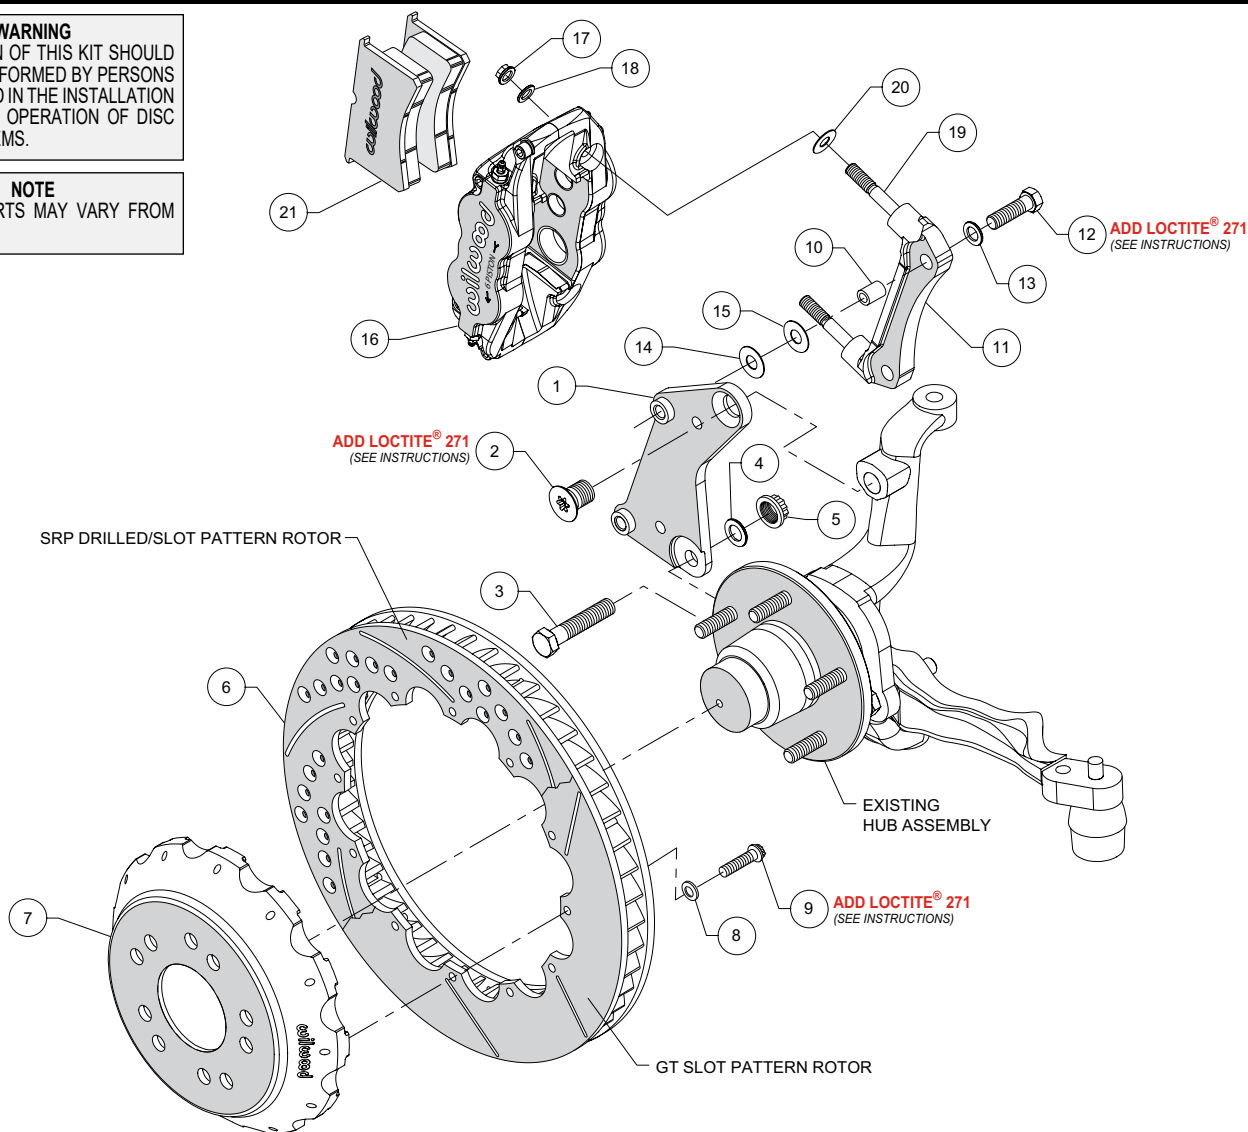

Figure 1. Typical Installation Configuration
•The radial mount caliper bracket assembly (11) should be installed first with clean, dry threads on the mounting bolts. Slide bolt sleeve (10) into the mounting holes of bracket (11). Install the bracket on the back side of the spindle/flat caliper mounting bracket (1) by sliding bolt (12) through washer (13), and through sleeve (10.) Initially place three shim washers (14) between the two brackets (1 and 11) (see Figure 1). The bracket must tighten squarely against the side of the spindle/caliper bracket. Inspect for interference from casting irregularities, machining ridges, burrs, etc. Later, after the caliper, pad, and rotor alignment has been checked, and any necessary shims have been put in place, the mount bolts should be coated with red *Loctite*® 271 and torqued to 47 ft-lbs.
•**NOTE:** This kit contains distinct right and left hand calipers that must be mounted in a specific direction, as described below. Initially place one .035” thick shim (20) on each stud (19) as shown in Figure 1. Mount the caliper (16) onto the radial mount bracket (11) using lock nuts (17) and washers (18), Figure 1. Ensure that the caliper is mounted so that the largest pistons are at the rotor exit end of the caliper, in relation to the direction of rotor rotation. Temporarily tighten the lock nuts and view the rotor through the top opening of the caliper. The rotor should be centered in the caliper. If not, adjust by adding or subtracting shims (14 and/or 15) between the spindle/caliper mounting bracket (1) and the radial mount bracket (11). Always use the same amount of shims on each of the two mounting bolts.
•Remove the caliper center bridge pad retainer bolt, nut, and tube from the caliper. Slide the brake pads (21) into place. They should install easily without interference. Check that the outside radius of the brake pad is flush with the outside diameter of the rotor face. Add or subtract shims (20) between the caliper and mount bracket to gain the proper alignment. Reinstall the center bridge pad retainer tube, bolt, and locknut. The locknut should be snug without play in the bolt or tube. Be cautious not to over tighten.
•Once all clearances have been checked, remove the wheel, caliper, hat, and rotor from the spindle and hub. Secure the spindle/caliper mounting bracket (1) to the spindle with bolts (2 and 3) using red *Loctite*® 271 on the bolt threads. Torque bolt (2) to 140 ft-lb and bolt (3) to 77 ft-lb. Remove bolts (12) from the radial mount caliper bracket (11) and coat threads with red *Loctite*® 271 and reinstall. **NOTE:** Only removing one bolt at a time, then coating the threads and reinstalling will help keep all the shims in place. Torque bolts (12) to 47 ft-lb. Reinstall the hat and rotor assembly and again use lug nuts to hold it in place. Reinstall the caliper (16), torque the caliper nuts (17) to 30 ft-lb.